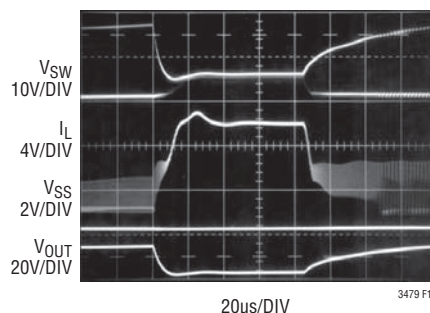

Figure 10. Output Overload with Inrush Current Protection Disabled
shows an output overload with inrush current protection disabled. Notice that soft-start remains high, and that the inductor current does not return to zero. Figure 10 illustrates the benefits of inrush current protection. The output short initiates a new soft start cycle reducing the inductor current. After the fault has passed, the inductor current slowly returns to its equilibrium value. To ensure bond wire integrity, the inductor current should not exceed 8A for more than 10ms.
Figure 10 is a line graph showing the efficiency of the proposed converter as a function of output current (I_{OUT}) for three different input/output voltage conditions. The x-axis represents I_{OUT} in Amperes (A), ranging from 0 to 1.0. The y-axis represents Efficiency in percent (%), ranging from 50 to 80. The three curves are labeled with their respective V_{IN} and V_{OUT} values: